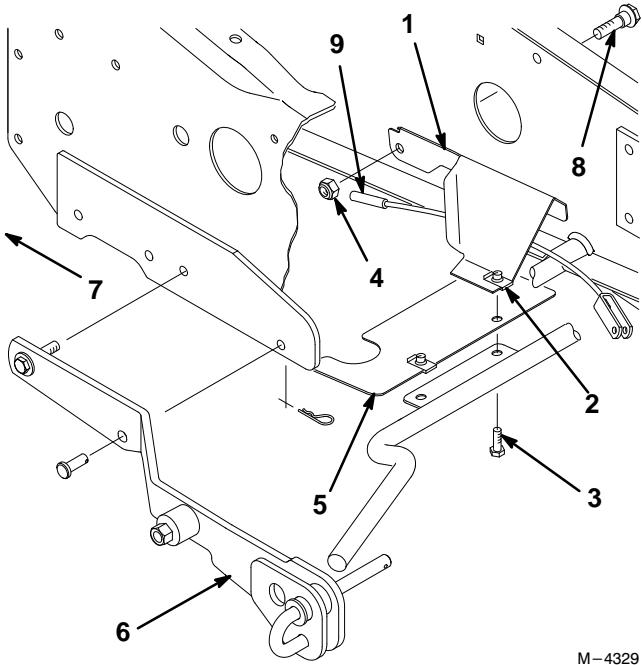

Figure 9
2. Remove the two bolts in the plastic fan baffle (Fig. 9) and remove the baffle.
3. Remove the clip nut from the left side of the plastic fan baffle and install over the hole in the bent tab of the cable guide (Fig. 9).
4. Remove the nut from the pivot bolt on the left hand attachment lift arm (Fig. 9). Leave the bolt in place.
5. Install the rear hole of the cable guide to the left hand lift arm pivot bolt and replace the nut loosely (Fig. 9).
6. Reinstall the plastic fan baffle with one of the previously removed bolts in the right hand side only (Fig. 9). Leave the bolt loose.
9. Route the lift cable under the cable guide and over the rear axle (Fig. 9).